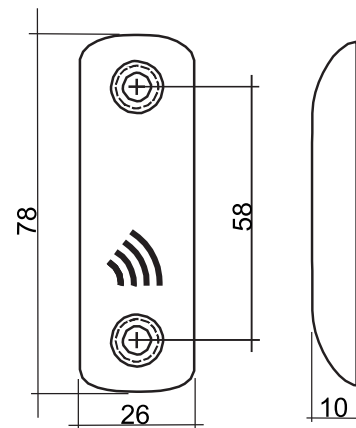

Fig. 2 Product dimensions
1. Mark and drill mounting holes to fit the size of the reader holes (Fig. 2).